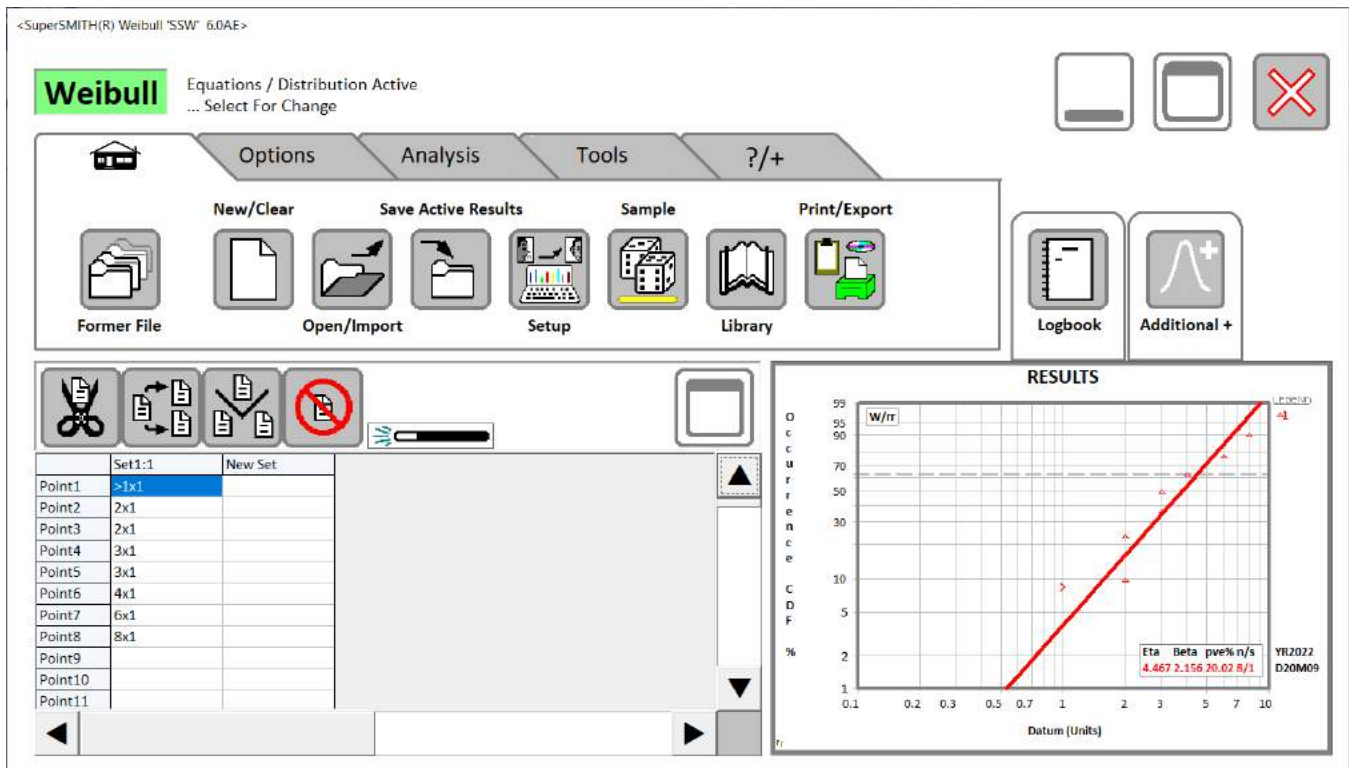

Figure 2: New SuperSMITH Weibull Main Screen Icon Layout.
DIRECT INSTALL: Power up the PC (Windows or simulator). Have the SS **setup.exe** and other installation files available. Load onto the PC by running **setup.exe** and following the prompts. After install, within the SuperSMITH group, select the SuperSMITH Weibull program. This is the SMITHW.EXE file or the icon showing plotted data with fit and confidence lines. Initially select “Yes” to agree to usage conditions, and automatically advance to the Main Screen (Figure 1 below shows the former icon layout, Figure 2 on the next page shows the new icon layout).
Use single selecting (single touching for touch screens) mostly in SuperSMITH. Double selecting is discouraged to minimize hand stress. We will be using life data mostly for illustration, but any type of measured data with variability can be analyzed. **For this tutorial if using the DEMO software, all input data must only be loaded from a file previously saved by a FULL SuperSMITH software program (provided with the software).** If using the FULL software, this is not a concern but maybe easier to do. All file names shown here are on a single text line for easy copying. Reminder: Figure 1 shows the new SSW icon layout for standard pointing device use, and Figure 2 shows an optional larger icon layout with tabs for touch screen use.
Start the SSW software by choosing Start from the Windows™ Main Screen, then the SuperSMITH group, then Weibull. On first use, select “Yes, I agree...” if you are asked and if you agree to the software use terms. You should see the Main Screen (Figure 2 below) with equation label (“Weibull” at first), some tabs, some icons, a data grid and a results box.
- B. A probability plot should appear. Select the plot to enlarge. The plot should resemble the one in Figure 2. Your solution should indicate Eta=4.467, Beta=2.156. If not ... check the data and/or reset the method to Weibull “rank regression” standard. Select the full-window plot or use the <ESC> key to shrink the plot which will take you back to the Main Screen.